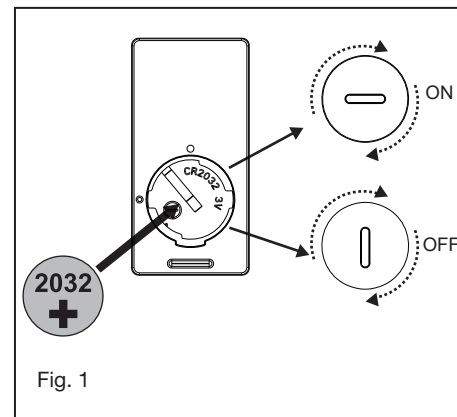

Fig. 1
1. Insert the receiver into the ceiling mounting bracket with the flat side of the receiver facing the ceiling. (Fig. 1) For best performance, make sure the Black Antenna and WIFI Antenna, on the end of the receiver, remains extended and not tangled with any of the electrical wires.
- 1 Remove one of the three screws on the mounting hub located on the fan motor. (Fig. 1)
- 2 While holding the LED assembly under your fan, make the polarized plug connections: (Fig. 1)
- 3 Tuck connections neatly into LED assembly, place the LED assembly to the mounting hub with 3 screws provided. (Fig. 1)
- 4 Raise the light cover against the LED assembly and turn clockwise until snug, DO NOT OVERTIGHTEN. (Fig. 1)
- 1 Select a desired location. Use the wall plate to mark the location of the mounting holes. Plastic wall anchors or mounting screws are needed for this application. (Fig. 1)
Remove the panel from the transmitter and then install one 2032 battery (included). You need to use a coin to open or close the battery cover. To prevent damage to transmitter, remove the battery if not use for long periods of time (Fig. 1)